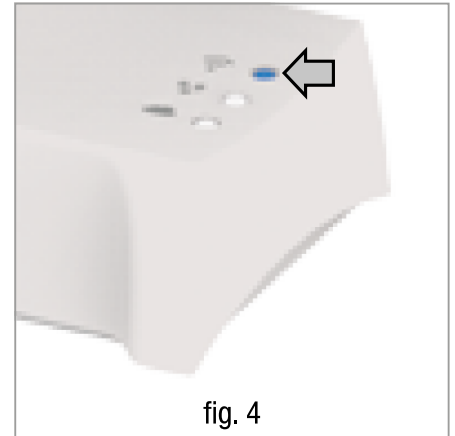

fig. 4
5. Verify the radio signal coverage of the **WHITE-Box**: the blue LED on the **WHITEBox**   shall be switched steady on, NOT blinking (fig. 4).